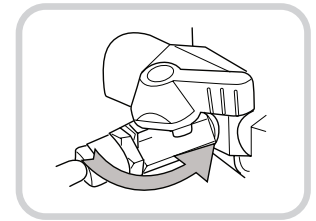

Fig. 1
- Close the Water Inlet Valve. (Fig. 1)